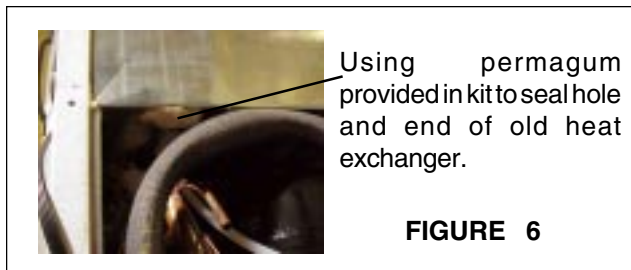

FIGURE 6
14. Seal hole and end of old heat exchanger with Permagum. (See Figure 6.)